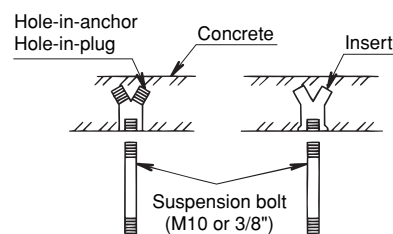

Fig. 3-31
- (2) Depending on the ceiling type:
- Insert suspension bolts as shown in Fig. 3-31